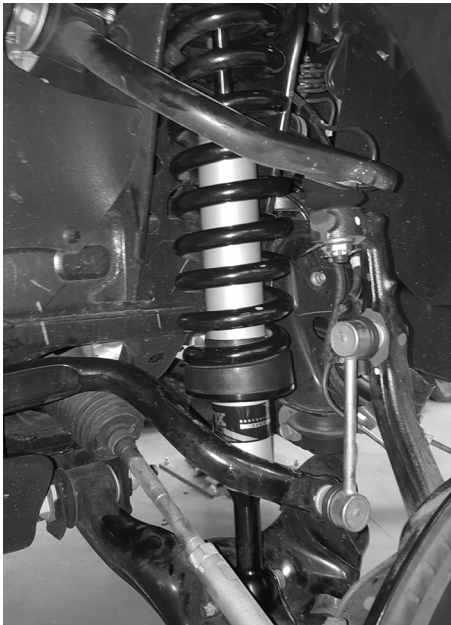

Fig. 9: Left side shown
2. Install new coil-over assembly onto vehicle by following the reversal of disassembly steps: (Steps 4, 3, 2). Add high strength threadlocker and torque all fasteners to OEM recommended values. (Fig 9)